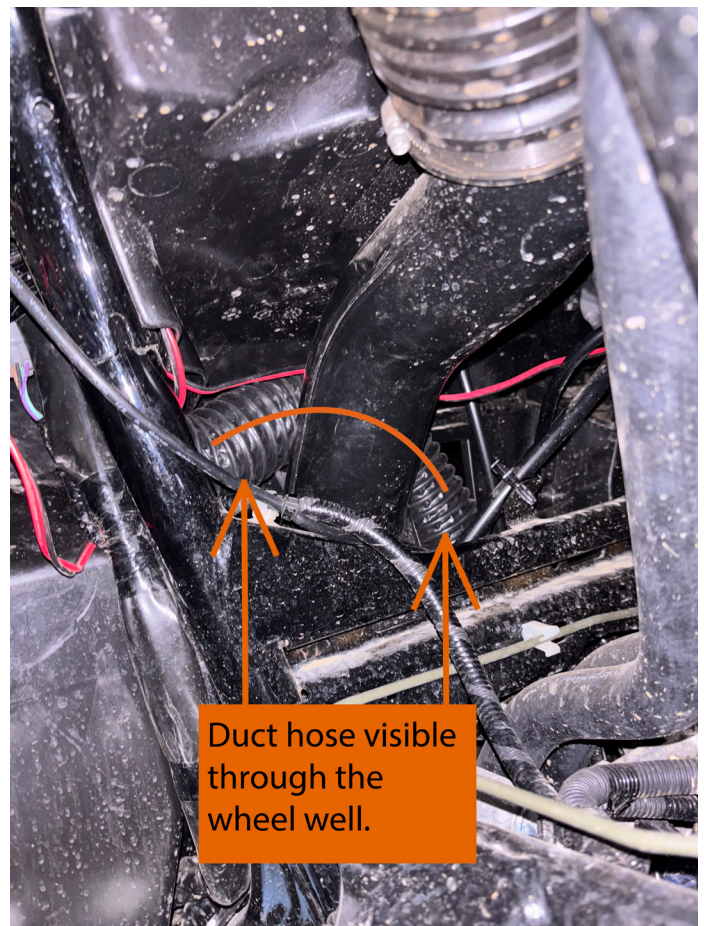

FIGURE 7
16. Route the hose behind the air intake and feed it into the drive shaft tunnel. FIGURE 7